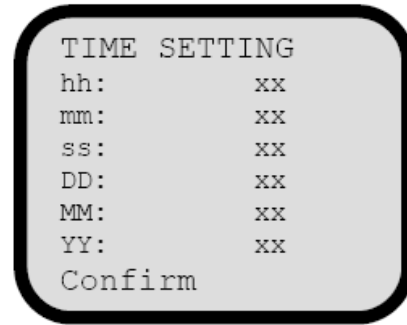

Figure 4-4. Time Setting Screen
3. Press Enter to confirm. The display will appear as in Figure 4-4.